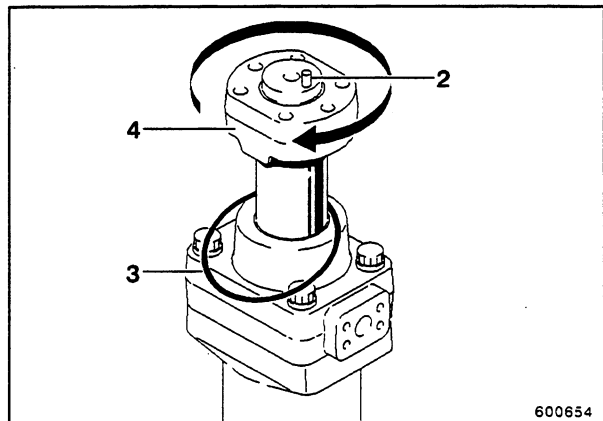

Fig. 10
- Place a new seal ring (3, Fig. 10) around the piston rod.